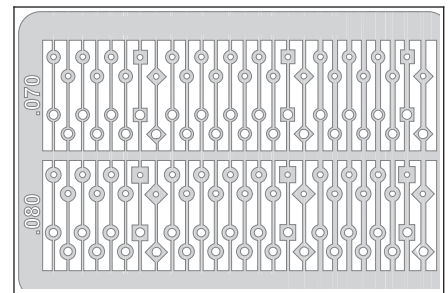

Figure 2 Select a replacement land that matches the missing land.
8. Select a replacement land that most closely matches the land to be replaced. (See Figure 2.)